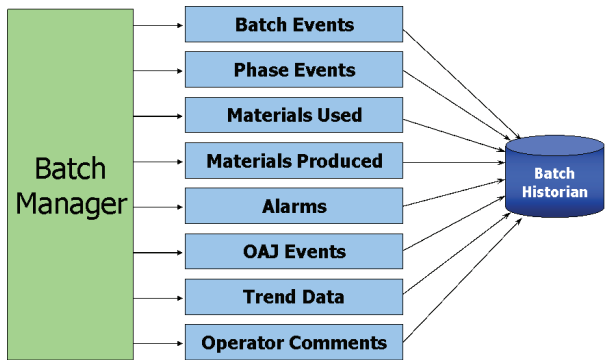

Figure 6. Batch History (EBR)
- EBR events are the event data the Batch Manager captures and logs to the Batch Historian when batches are executing (refer to Figure 6). All these events are stored with time, date, and batch ID for easy retrieval.